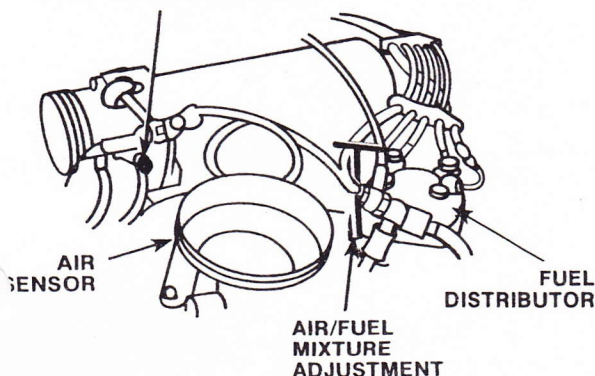

FIGURE 25-38 Location of the idle speed and air/fuel mixture screws in a CIS arrangement.
- ◆ The two basic adjustments made to the CIS are idle speed and the air/fuel mixture. To set the idle speed on a typical CIS setup, turn the screw next to the throttle plate linkage, which varies the size of a by-pass drilling. Counterclockwise equals faster (Figure 25-38).